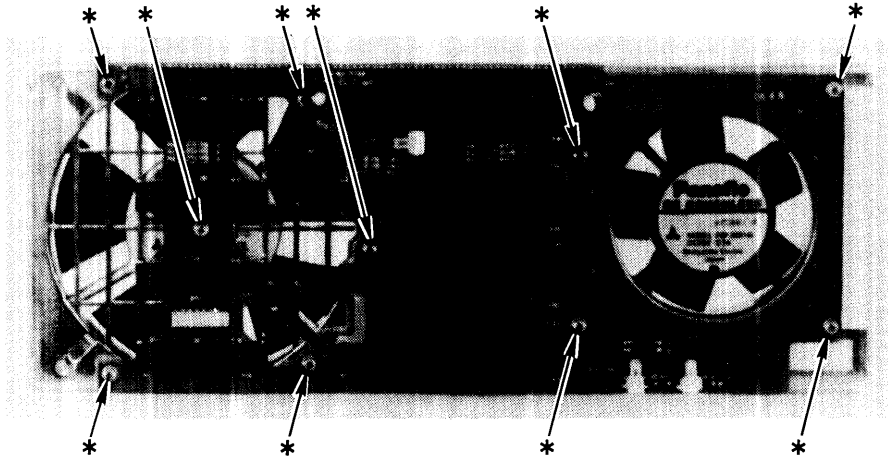

Figure 2-16a. Computer Motherboard Screws
2. Remove the screws holding the motherboard to the fan housing, and remove it. Refer to Figure 2-16a, -16b, or -16c, depending on the unit.